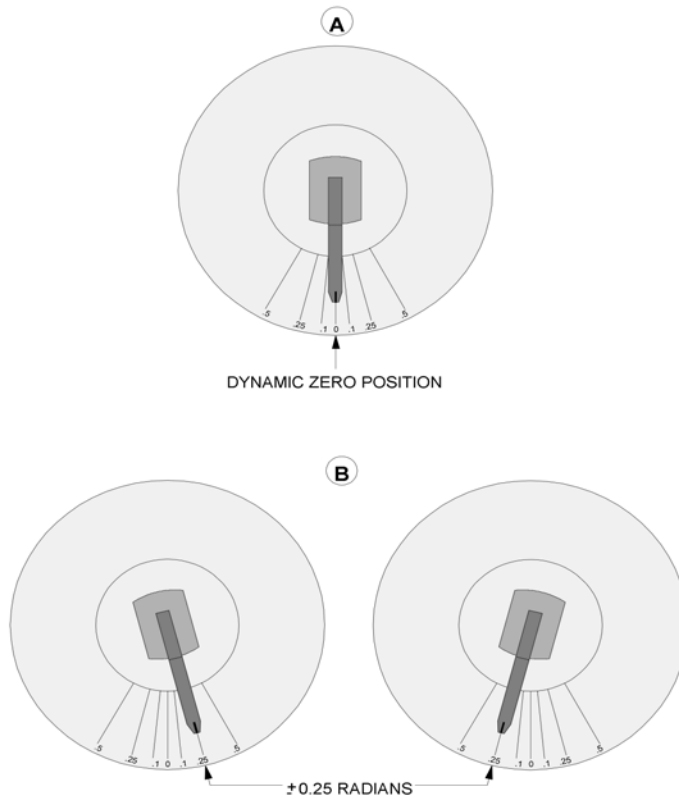

Figure 5-9. Strain Calibration Check with Pointer
4. Use the Strain Offset to align the pointer with dynamic zero position (Figure 5-9).
- b. The pointer deflects ± 0.25 radians, as shown in Figure 5-9.